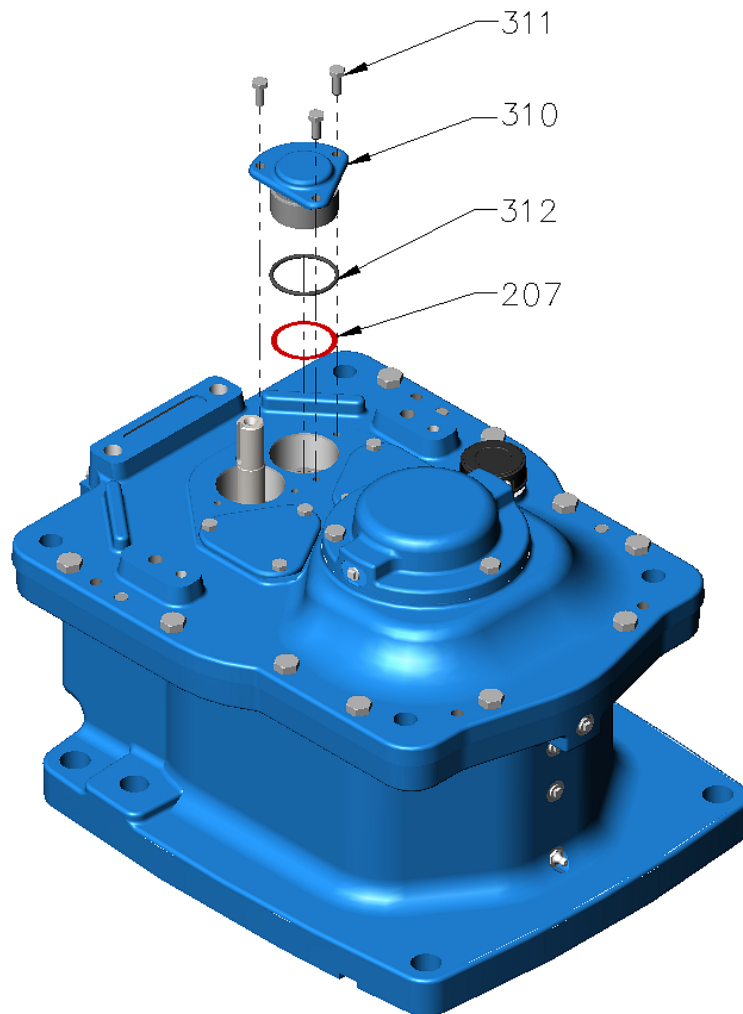

Figure 3 – 1st Intermediate Cap
- C. At 1st intermediate shaft, remove the following items (refer Figure 3):